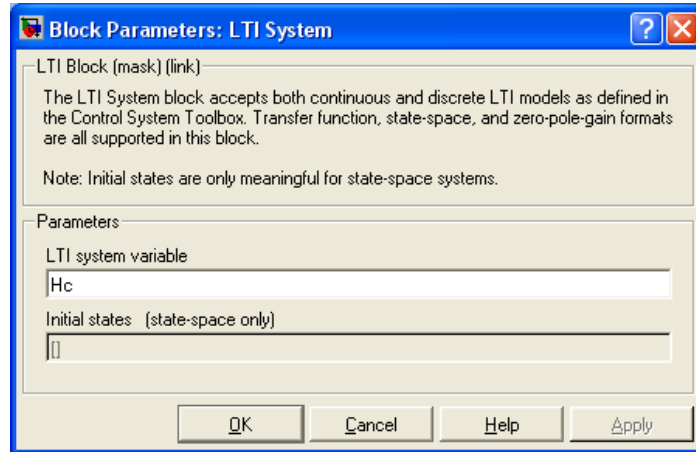

Figure 4.7: Parameter dialog window of the **LTI** block
- *The LTI model, H_c*, is created using the **tf** function in Control System Toolbox. **H_c** is used in the **LTI** block, see Figure 4.7.